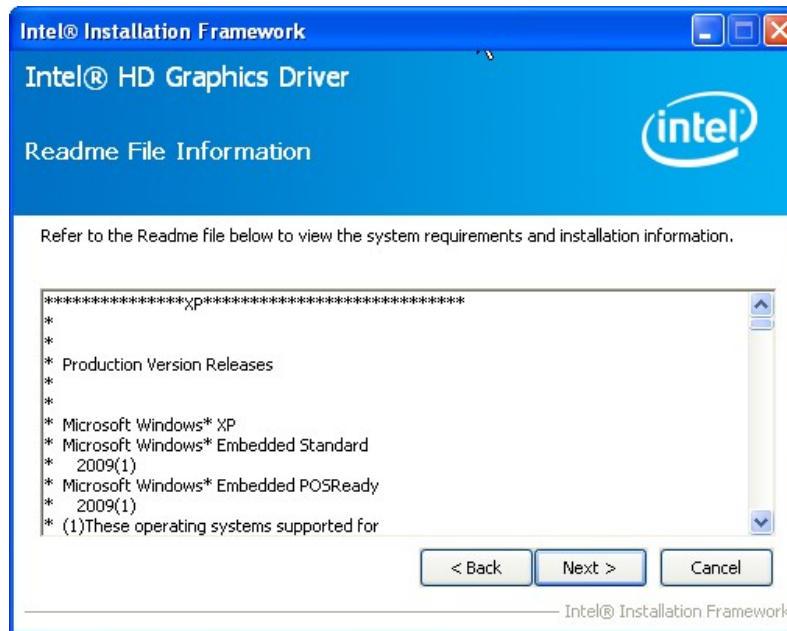

Figure 6-10: Graphics Driver Read Me File
Step 7: The Read Me file in **Figure 6-10** appears.